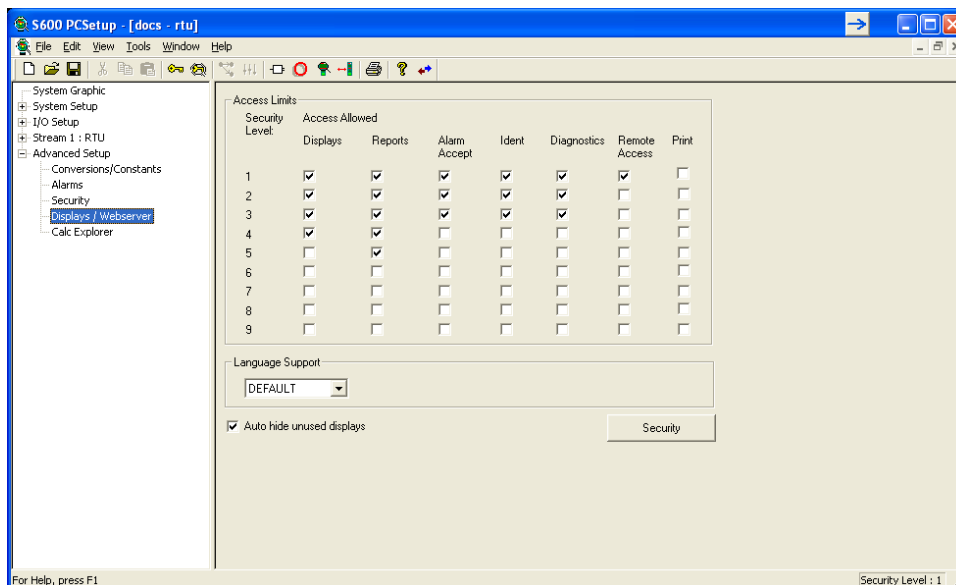

Figure 6-1. PCSetup Webserver Access
**Note:** The security level assigned to your security code determines how many menu bar options appear on the web access interface. See *Figure 6-1*.